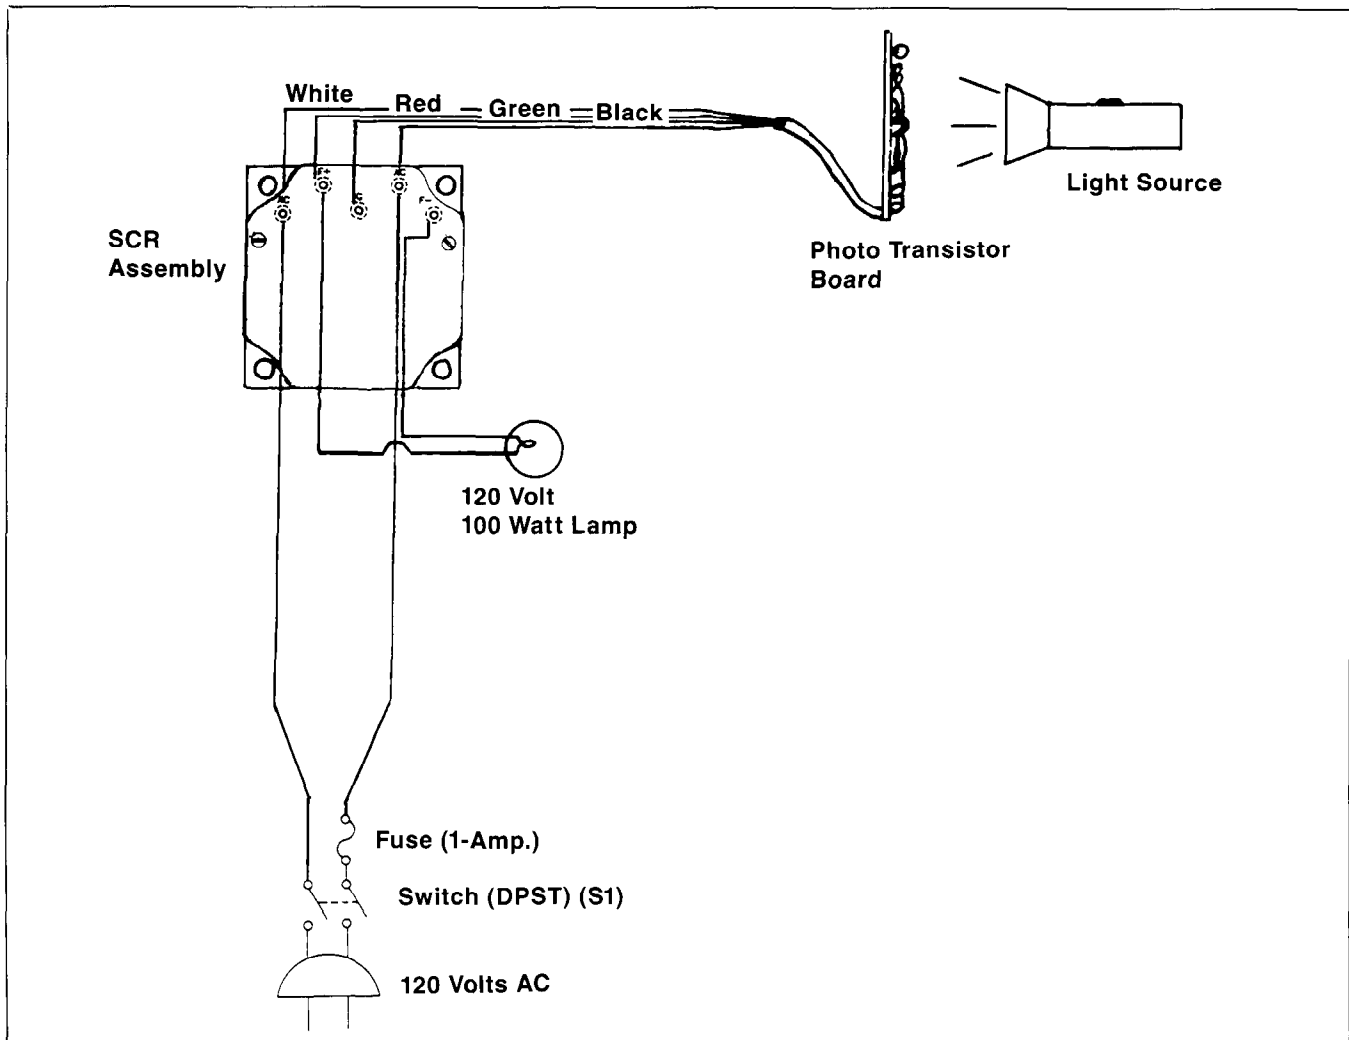

Figure 4-8. Split FR Activator Test
1. Connect components as illustrated in Figure 4-8. If testing the photo transistor board the SCR assembly must be “known-good”. If testing the SCR assembly, the photo transistor board must be “known-good”.